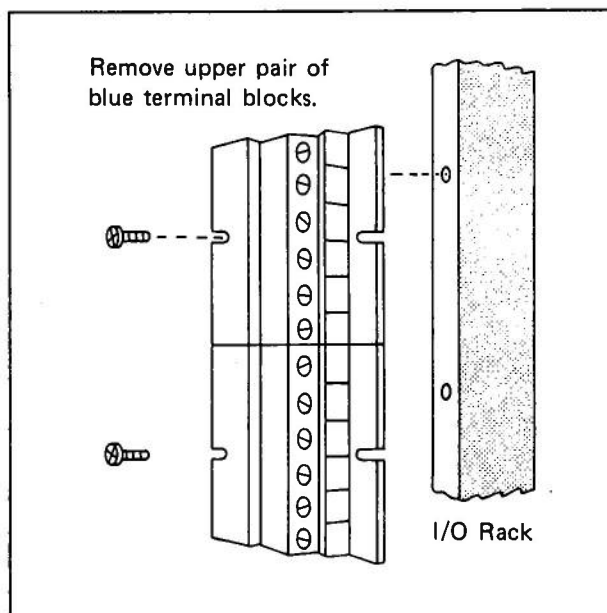
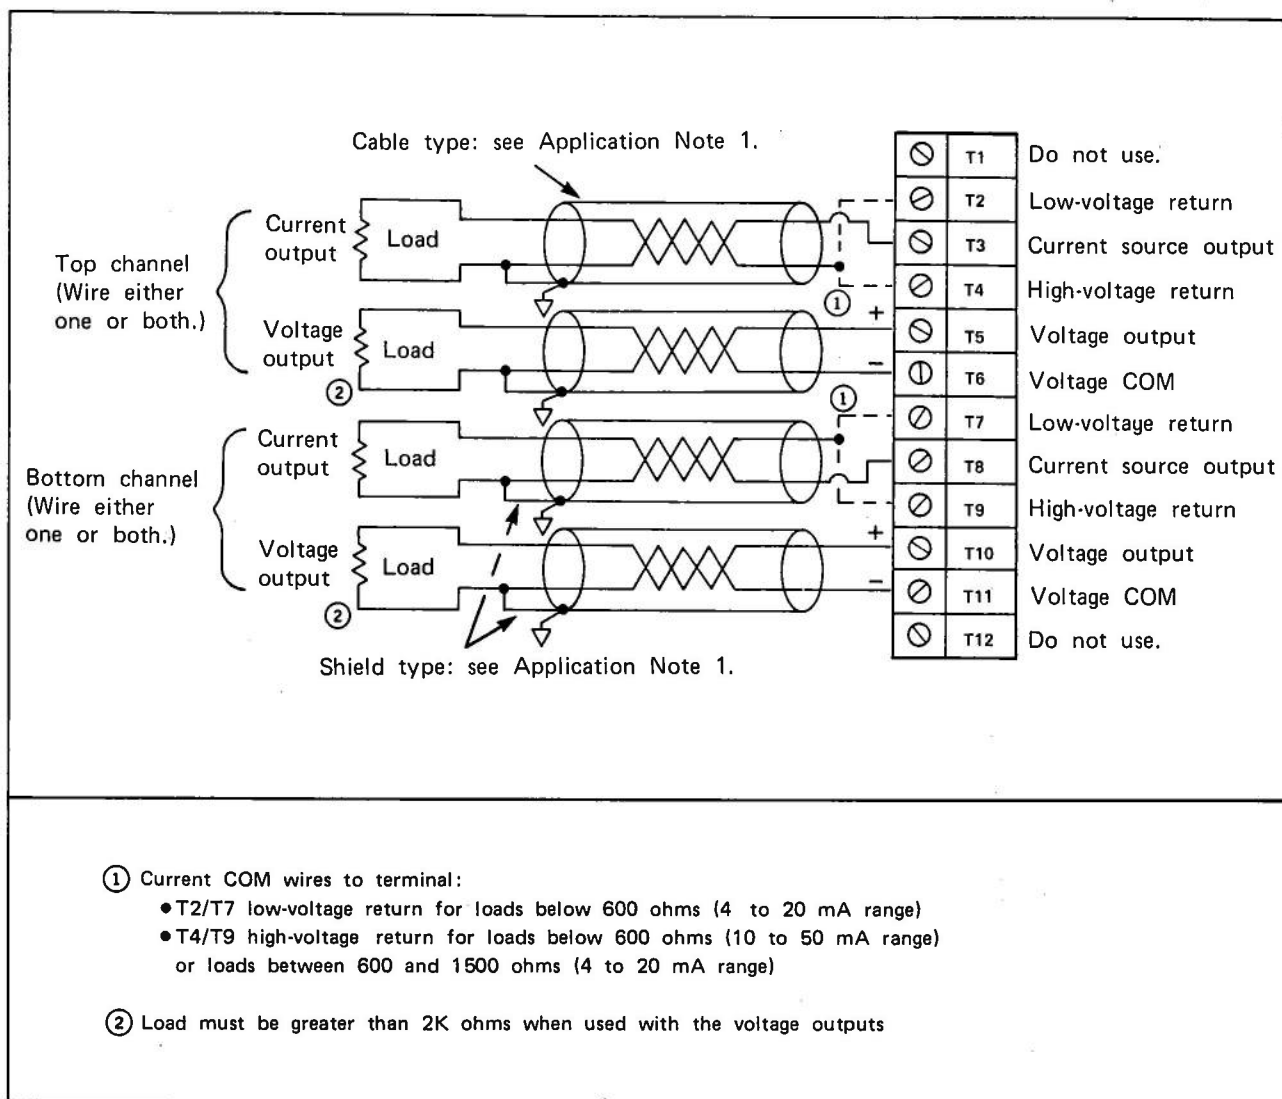
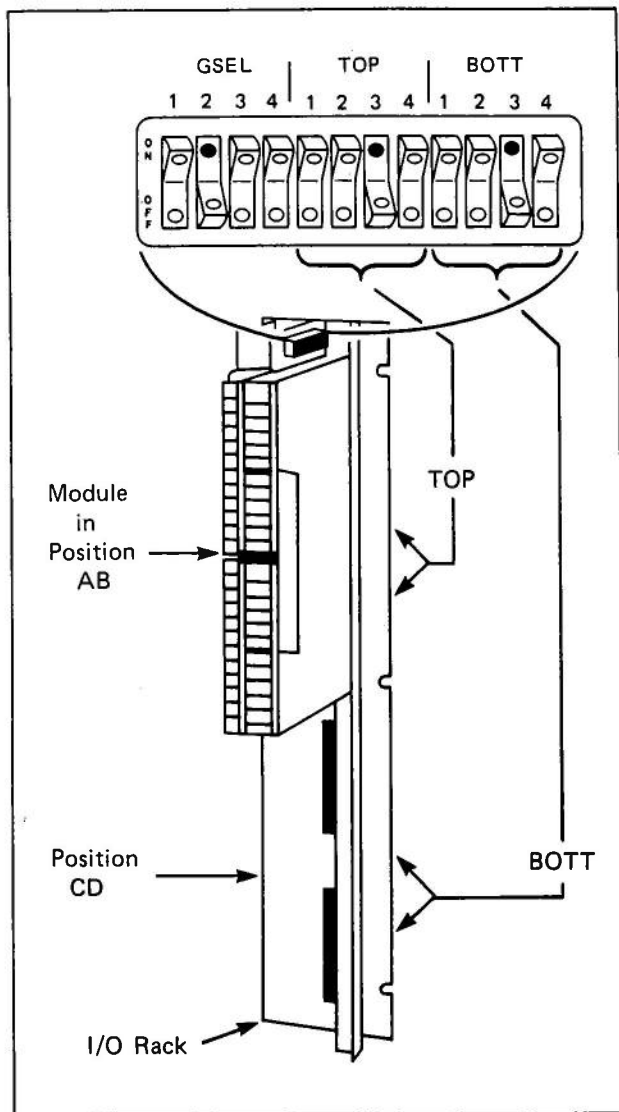

Figure 3 - Terminal Block Removal
Figure 4 – Connection Diagram (typical)
Figure 5 - Rack Switch Location
Physical Placement — Refer to the system drawings and determine the exact I/O Rack Positions in which the Module will be placed. (See Figure 5 for an explanation of "position.") Use a screwdriver to remove the terminal block adjacent to the top half of the Module to allow for its width. (See Figure 3.) Field wiring connects only to the lower terminals. Follow system wiring diagrams and carefully observe the type of conductor specified. A typical connection diagram is shown in Figure 4.
Step 1 – Place the Module in the selected Position. Although a Module can be placed in either the upper 2 Positions or the lower 2 Positions, it may not straddle Positions B and C. See Figure 5. Also, it is important that it be placed according to the user program Reference Number scheme.
Step 3 - At the top right-hand side of that I/O Rack, locate the Rack Switch assembly. (See Figure 5.) Note that it is divided into 3 groups of 4 rocker switches each. Locate those that make up the GSEL area.
- Connect all cable shields to the common (voltage output) or return (current output) connection to the load **only** at the load end in order to prevent ground loops. (See Figure 4.)